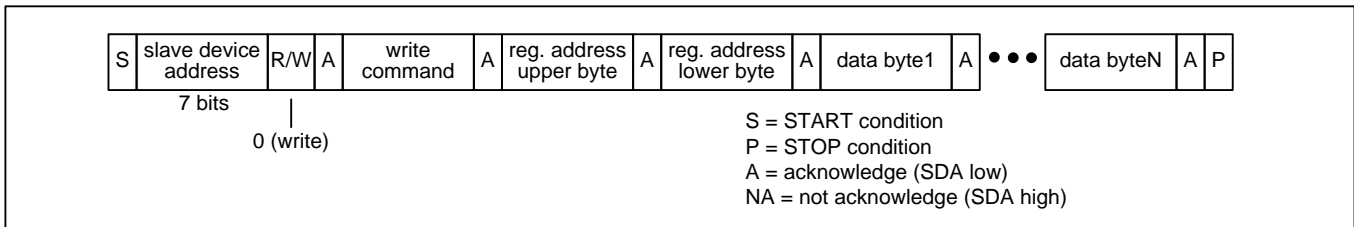

Figure 15 – I2C Register Write Transaction Functional Timing
**Register Write Transactions.** The device registers are accessible when  $EESEL=0$ . The bus master does an I2C write to the device. The first three bytes of this transaction are the SPI Write command (see Table 4), the upper byte of the register address, and the lower byte of the register address. Subsequent bytes are data bytes to be written. After each data byte is received, the device writes the byte to the write address and then increments the write address. The bus master terminates the write with a STOP condition (P). See Figure 15.